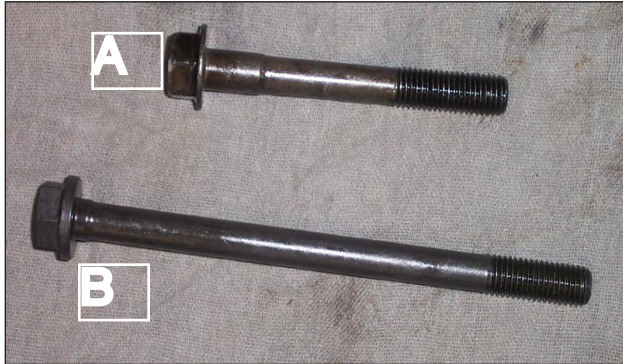

Fig 12
5. Install Jacobs supplied mounting bolts, two lengths, and original DDC stud hex nuts removed earlier. (See Fig. 12)